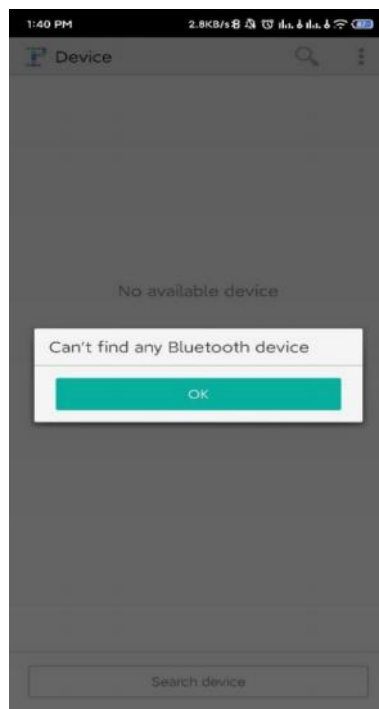

Figure 5-7 No Bluetooth devices found
- (2) If no nearby devices are found, the software prompts "No Bluetooth device found". At this time, you can tap  in the upper right corner or the "Tap to start device search" button to re-search the devices, as shown in Figure 5-7.